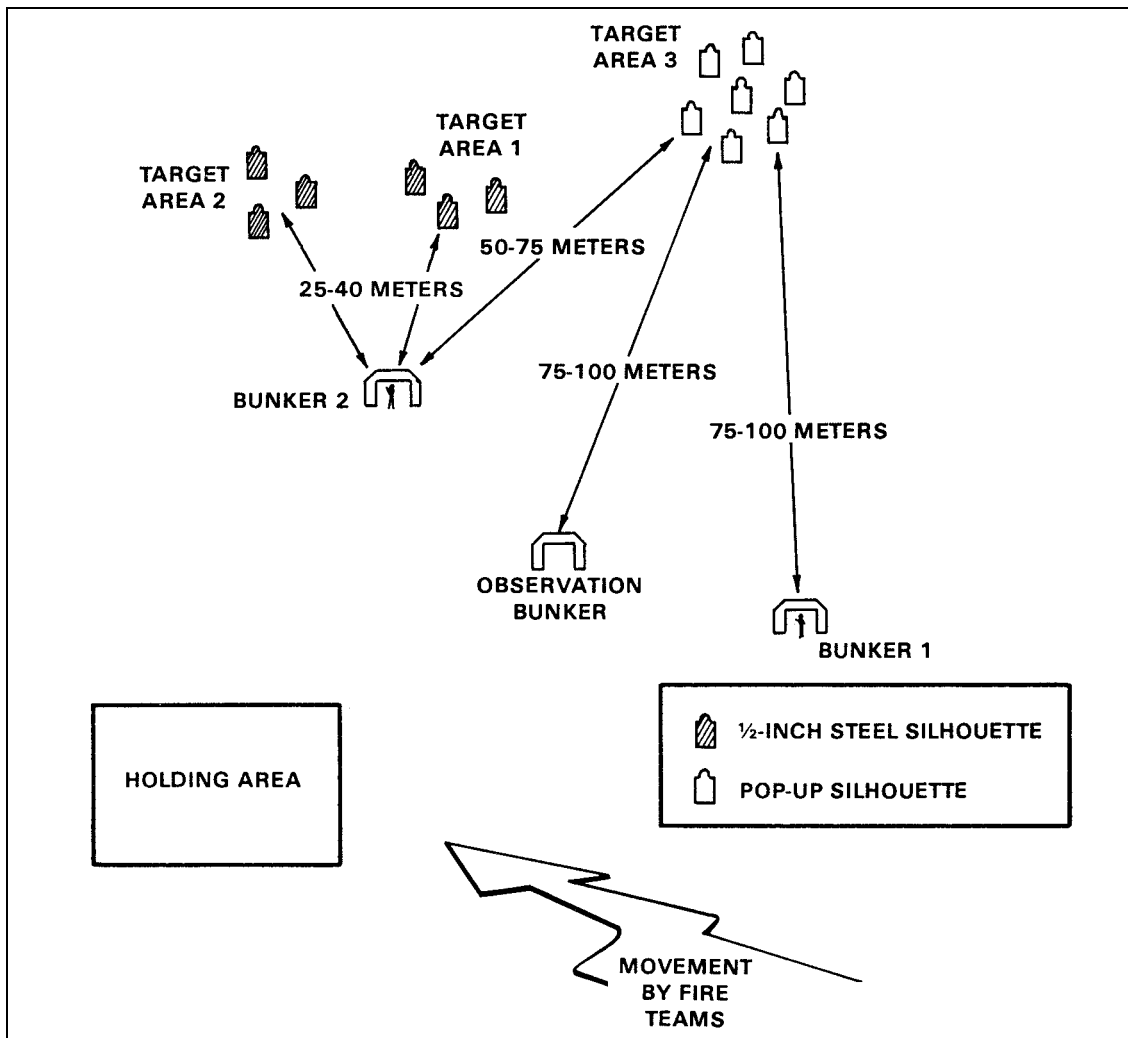

Figure 4-8. Confidence course layout.
g. **Hand Grenade Confidence Course.** Once the soldier has developed his throwing proficiency and has been introduced to throwing casualty-producing hand grenades, he needs an opportunity to apply his newly acquired proficiency in a simulated tactical situation requiring the use of grenades. The hand grenade confidence course is designed to accomplish this objective (Figure 4-8). The hand grenade confidence course has a practice and live course, each consisting of an assembly area, a final coordination line, an initial holding area, a covering position, a throwing position, and a final holding area. The following guidance is given to initiate the confidence course: